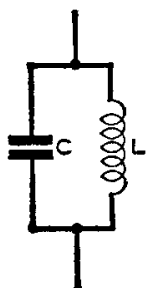
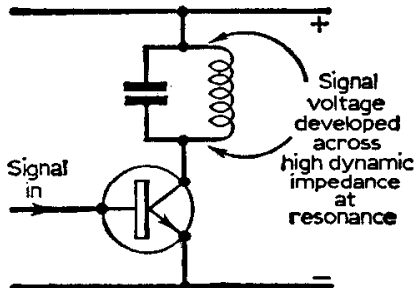

Fig. 1: Simple LC tuned circuit, sometimes called a rejector circuit.
Fig. 2: Tuned LC circuit loaded into the collector of a transistor amplifier.
ONE of the simplest electrical resonators is the conventional coil tuned by capacitance as shown in Fig. 1. The effective impedance appearing across this circuit rises to a relatively high value when the frequency of the signal current fed into it corresponds to the circuit's tuned frequency. From the d.c. point of view the circuit has a low resistance, governed solely by the resistance of the wire making up the coil (L), and at v.h.f. and u.h.f. this is an ohm or less. When the circuit is introduced as a load in a transistor or valve amplifier, its low resistance d.c. continuity allows it to feed power to the valve or transistor, as shown in Fig. 2.
Take Fig. 2 for example. Reflected across the L and C as it stands is the collector capacitance of the transistor. This might well be small, but at u.h.f. it can shift the frequency substantially away from the required channel. Then there are the wire connections from the LC combination to the transistor and thence to the output coupling. These add extra inductance to L, again dropping the resonant frequency. Capacitance reflected from the circuit into which L and C are loaded appears in parallel with C, and proximity effects of wiring, chassis parts and other components add to the confusion.